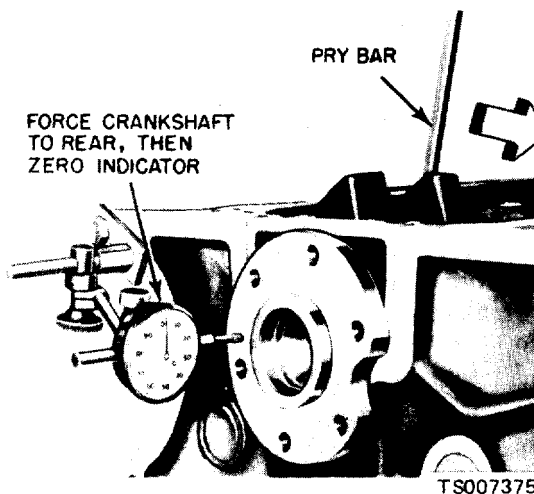

Figure 6-46. Checking Crankshaft End Play.
(1) Force the crankshaft toward the rear of the engine.
(2) Install a dial indicator so that the contact point rests against the crankshaft flange and the indicator axis is parallel to the crankshaft axis (fig. 6-46).